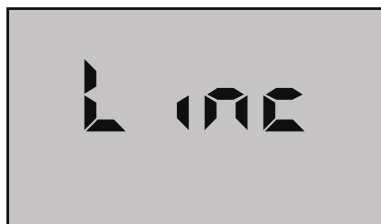

Figure 27
the menu “**Linc**” appears (see Figure 27).
2. Press  key until the menu "Linc" appears, (see Figure 27).